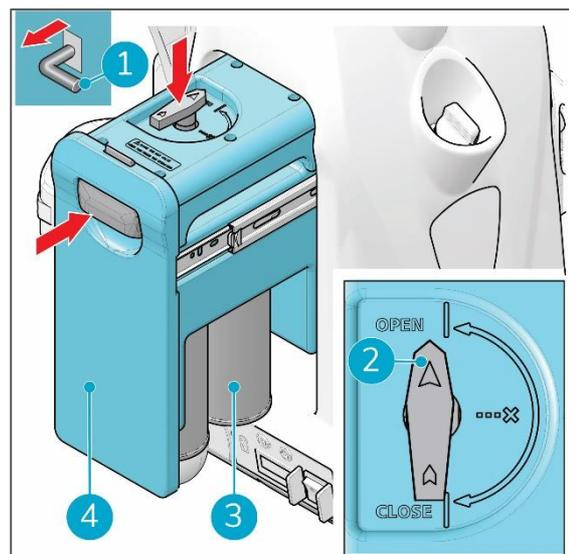

Figure 19
- pull the safety pin at the back of the i-gum® (Figure 19, pos 1);
- pull the gas cartridge holder (Figure 19, pos 4) at the same time.
4. Turn off the gas valve (Figure 19, pos 2).
- close the gas cartridge holder (Figure 19, pos 4) at the same time.